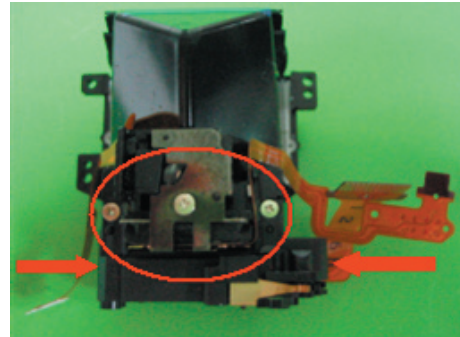

Fig. 108
(1)SI positioning is adjusted, so be careful not to touch the area circled in Fig. 108, and determine the position so as not to pinch the FPC.